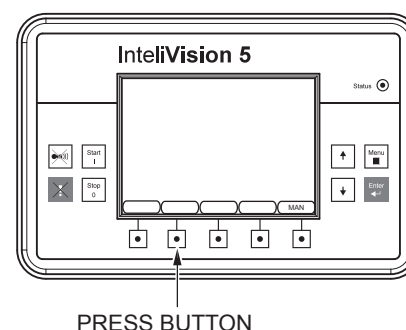

Figure 30. Generator Circuit Breaker (Open)
1. Press the GCB control button on the controller (Figure 30) to open circuit breaker.
2. Place the main circuit breaker (Figure 30) in the **OFF** position.